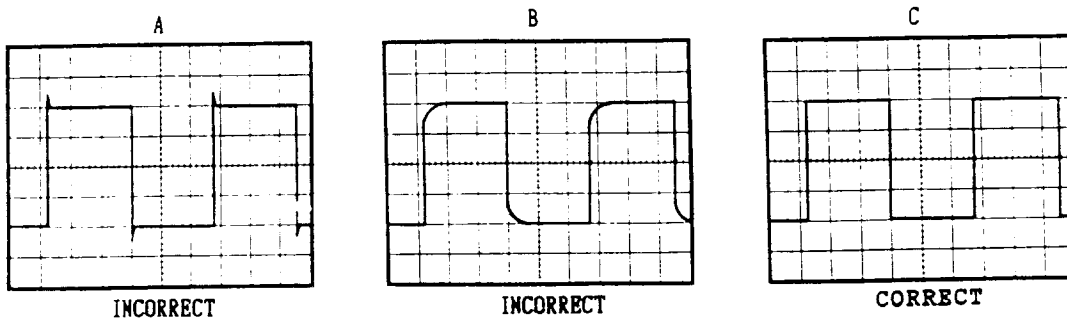
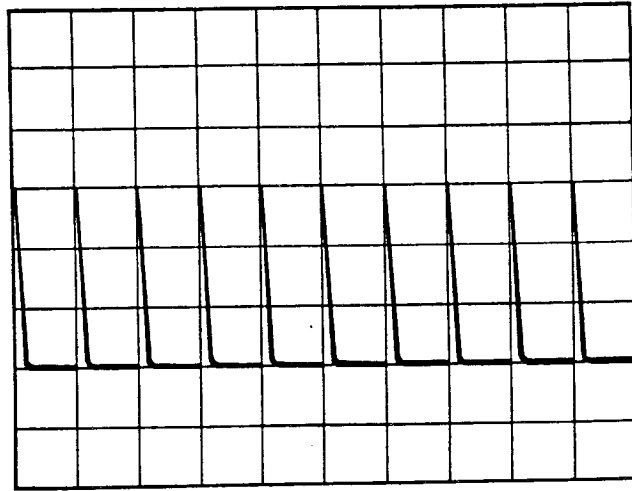

Figure 22
Figure 23
1. The purpose of the following adjustments is to obtain the proper amount of high-frequency compensation for all positions of the VOLTS/DIV switch. Figure 22 shows the conditions of too much compensation (A), too little compensation (B), and the correct amount of compensation (C).
- A. connect the 10:1 probe to the appropriate CH1 or CH2 input connector. Set the VOLTS/DIV switch to 20mV. Then adjust the trace position, TIME/DIV switch setting, and triggering for a display as shown in "C" of Figure 22.
- B. Adjust the probe compensation capacitor for correct compensation, as shown in "C" of Figure 22.
- C. Alternately adjust the ◀ POSITION and VR718 controls so that the displayed waveform aligns with each vertical graticule line, paying particular attention to the center 8 divisions, as shown in Figure 23.
- E. Adjust the ▶ POSITION control and VC708 so that the displayed waveform again aligns with the vertical graticule lines, as shown in Figure 23, with attention to the center 8 divisions.
- F. Apply a time marker signal of 5ms and change the TIME/DIV switch to 5ms. Alternately adjust the ◀ POSITION and VR717 so that the displayed waveform aligns with each vertical graticule line as shown in Figure 23.
- G. Apply a time marker signal of 50ms and change the TIME/DIV switch to 50ms. Alternately adjust the ▶ POSITION and VR716 so that the displayed waveform again aligns with vertical graticule line as shown in Figure 23.
- I. Alternately adjust the ◀ POSITION and VR721 so that the displayed waveform aligns with each vertical graticule line as shown Figure 23.
- J. Set time marker signal of 10us TIME/DIV switch to 10us adjust VR22 refer to Figure 22 so that the displayed waveform same as Figure 23.
- D. Adjust VR655 so the waveform aligns with the vertical graticule lines, as shown in Figure 23.